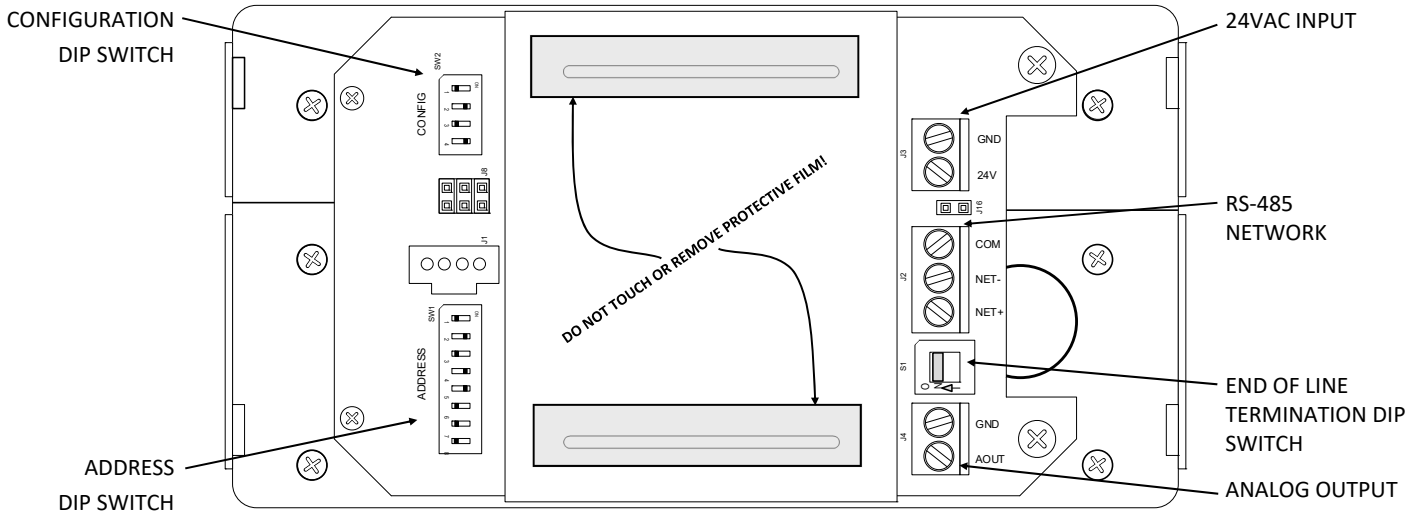

Figure 3. GC-N100 Board Layout Detail
Remove the four (4) 6-32 cover screws, and remove the cover from the GC-N100. Place all these aside for safe keeping. Do not touch or remove the protective film that covers the IR sensor compartments. Figure 3 details the GC-N100 main board layout and the locations of items that will be addressed.